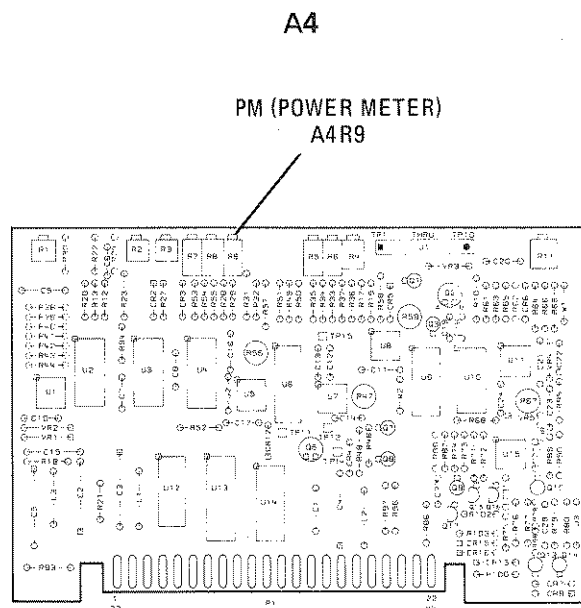

Figure 5-34. Power Meter Leveling Adjustment Location
4. Increase the 83595A power level until the 432A Power Meter reaches full scale deflection (83595A RF output equals approximately  $+6$  dBm). Adjust A4R9 (PM) until the 436A Power Meter indication is equal to the 83595A **POWER** display minus the Power Splitter insertion loss noted in step 2 (approximately 6 dB). Refer to Figure 5-34 for the adjustment location.
5. Alternately set the 83595A **POWER** to  $-2$  dBm (and adjust the 83595A **EXT CAL** control) then set the 83595A **POWER** to  $+6$  dBm (and adjust A4R9 (PM) control) to obtain the best compromise where further adjustment of each is unnecessary.